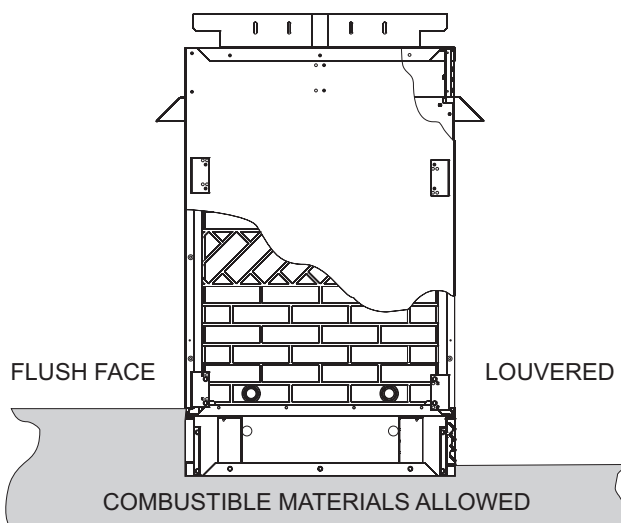

Figure 5
3. Recessed into the floor as illustrated by **Figure 5**.
4. Supported under all (4) corners of the firebox so that contact is made on all four perimeter edges on the bottom of the unit (Example: Four (4) concrete masonry blocks).